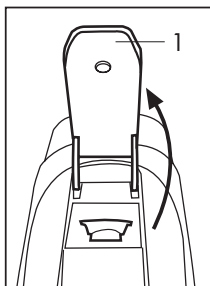
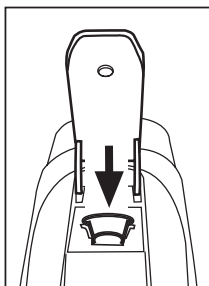

Fig. 8
Fig. 9
- Lift the control lever (1) completely (Fig. 8) and insert a capsule in the space provided. (Fig. 9)